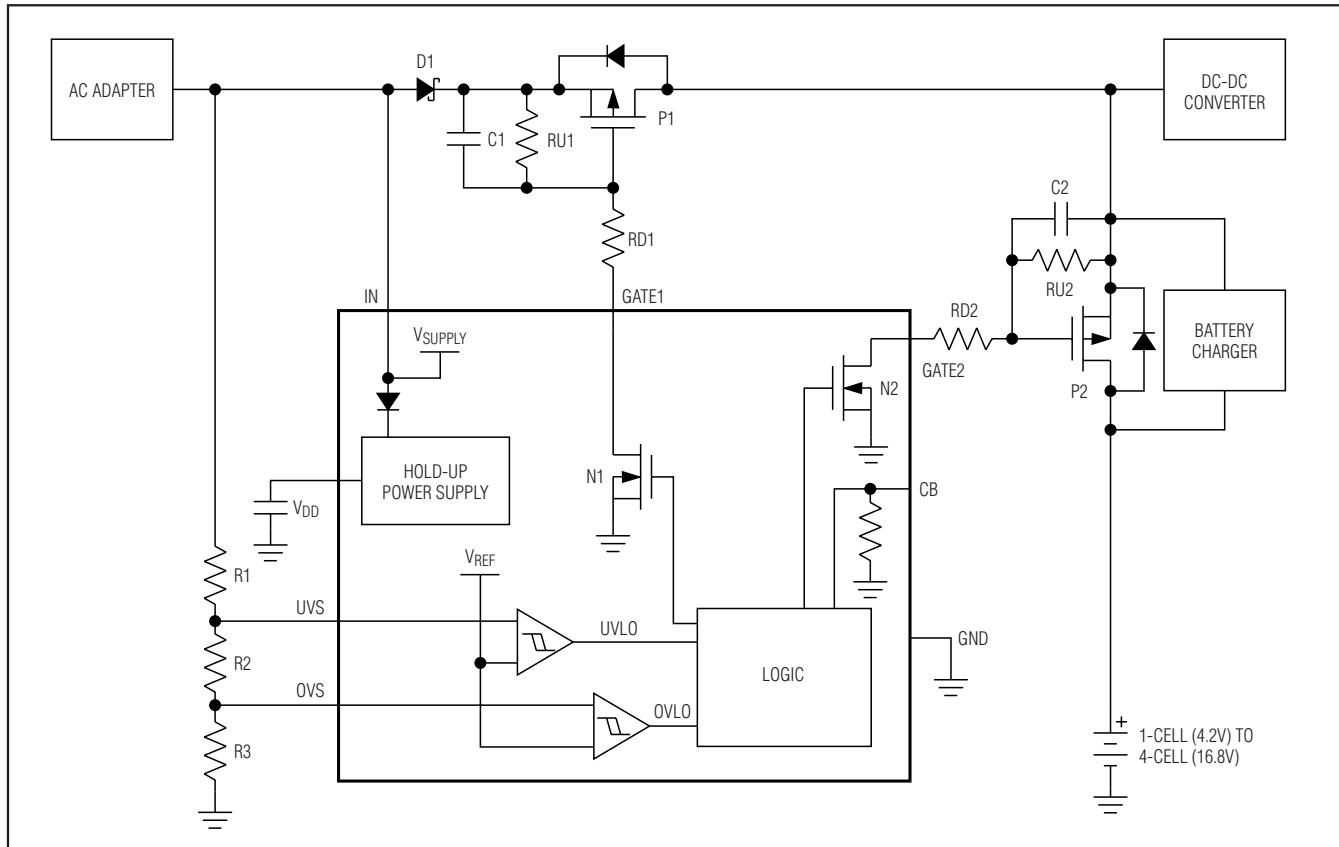

Figure 4. MAX4959 Typical Operating Circuit 1
The MAX4959/MAX4960 feature a control bit (CB) pin that controls an external battery-swatchover function that switches in the battery when the adapter is unconnected. The host system detects when the battery switchover must take place and pulls CB high to turn on P2. The load current is not interrupted during battery switchover as the body diode of P2 conducts until the CB line is driven high (see the *MAX4959 Typical Operating Circuit 1*, Figure 4).
The MAX4959/MAX4960 include undervoltage and overvoltage comparators for window detection (see Figure 4). GATE1 is enhanced and after the debounce time, the pFET is turned on when the monitored voltage is within the selected window.